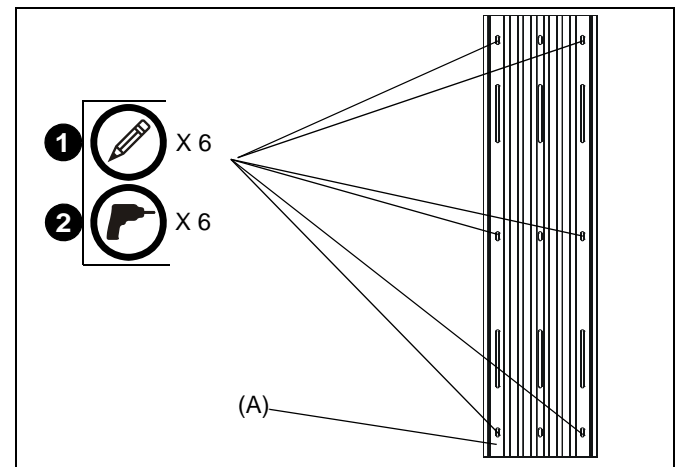

Figure 3
1. Using wall track accessory (A) as a template, mark location of six mounting holes on wall making sure it will be level. (See Figure 3)
2. Drill six 1/2" holes at locations marked in Step 1. (See Figure 3)